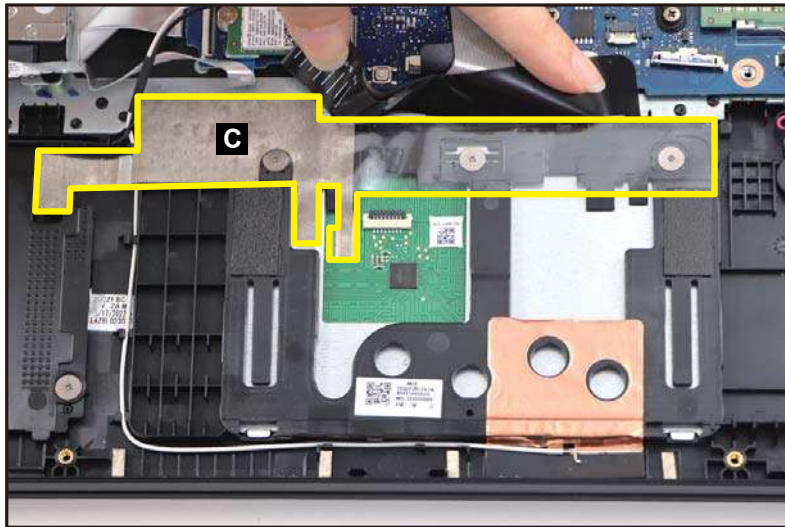

Figure 3-12. Touchpad Module Removal
3. Lift slightly the mylar. Then detach the conductive tape (C) from the touchpad module and top assembly (Figure 3-12).